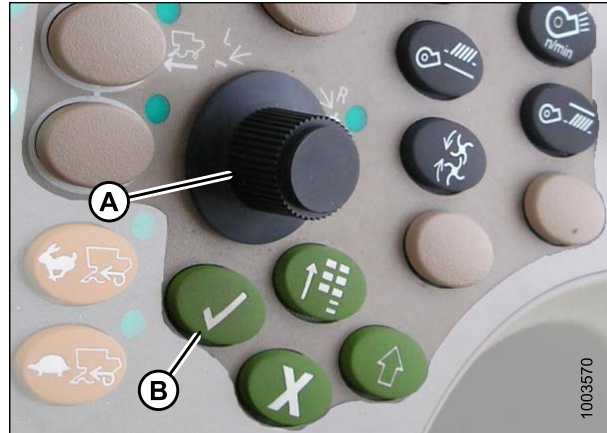

Figure 4.65: John Deere Combine Control Console
4. Select HEADER in box (A) by scrolling down to box using scroll knob, and then pressing check mark button (knob and button are shown in the image below (Figure 4.65, page 124).
5. Scroll down to lower right icon that resembles an arrow in a diamond (B) and press check mark button to select it.